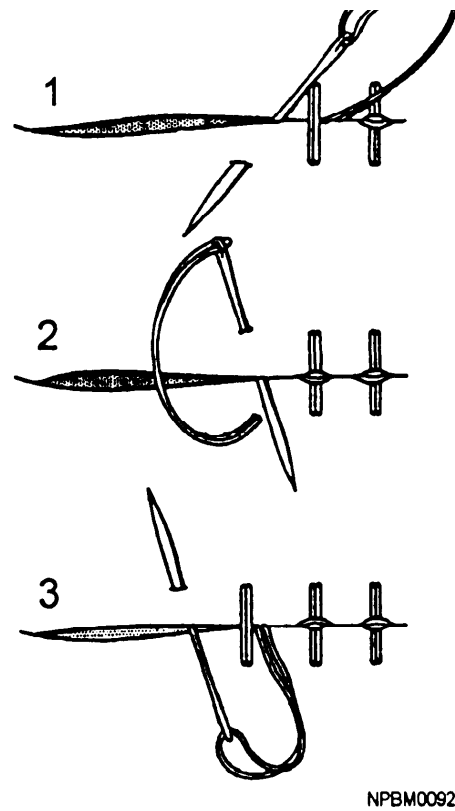

Figure 3-16.—Herringbone stitch.
- Herringbone stitch. The herringbone stitch is used to mend tears in heavy or painted canvas. Figure 3-16 shows the steps in making this stitch. As you can see from the picture, the herringbone stitch is very strong if applied correctly, as each stitch locks itself as it begins the next.